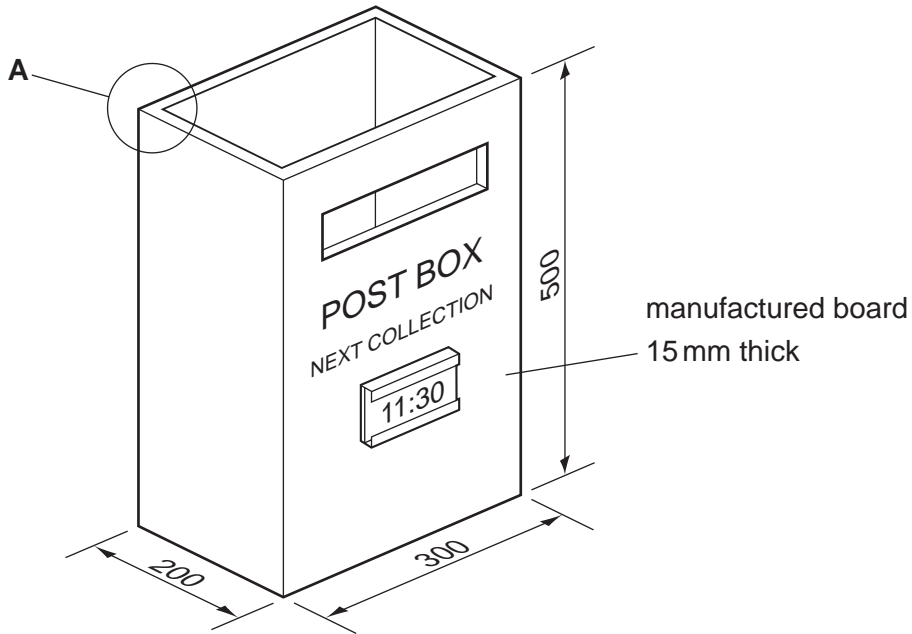

Fig. 9
- 11 Fig. 9 shows an incomplete design for a post box used by young children in school. The lid for the post box has been removed.